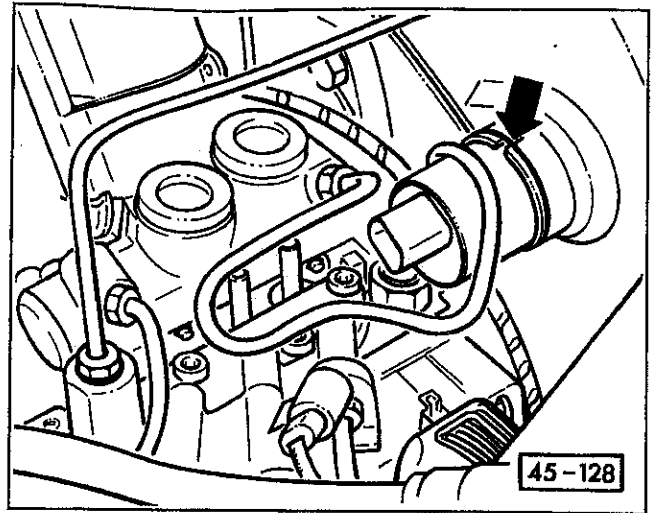

Fig. 10. Install brake pedal position sensor so that groove (arrow) is 180° opposed to circlip gap.
8. Insert the sensor into the brake booster so that the groove in the sensor is 180° opposed to the circlip gap. See Fig. 10.
- Fig. 10 shows the brake fluid reservoir removed for illustration purposes only.